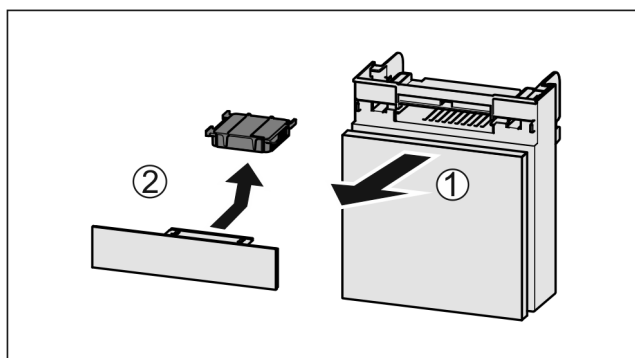

Fig. 117
- ▶ Pull out the compartment Fig. 117 (1).
- ▶ Remove the carbon filter Fig. 117 (2).